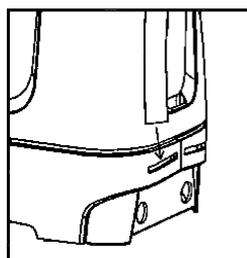

fig.3
- 4.1.4. Pass the end of the strap through the opening on the side of the tank (fig.3)